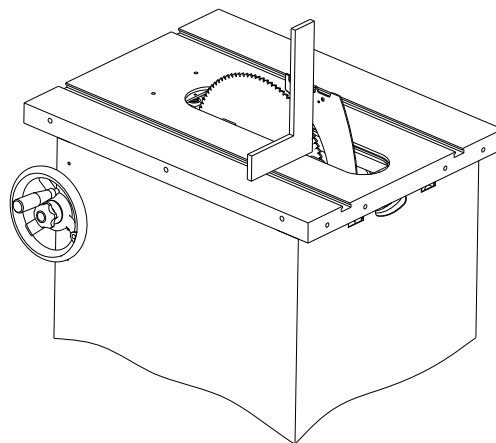

Fig. 16 (checking vertical alignment)
4. Place a machinist's square flat on the table and slides it against the riving knife as shown in **Figure 16**: